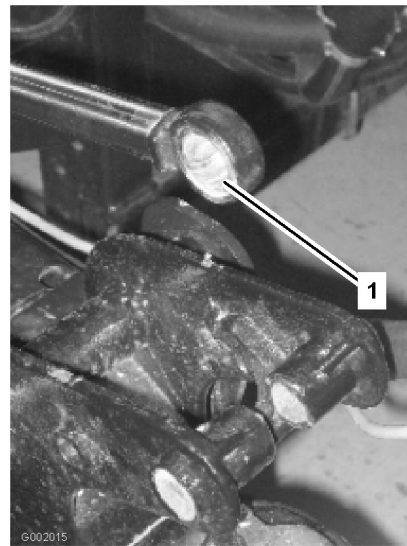

Figure 45
- Manipulate the actuator rod bearing end and apply grease into the bearing (Figure 45). Wipe off excess grease.